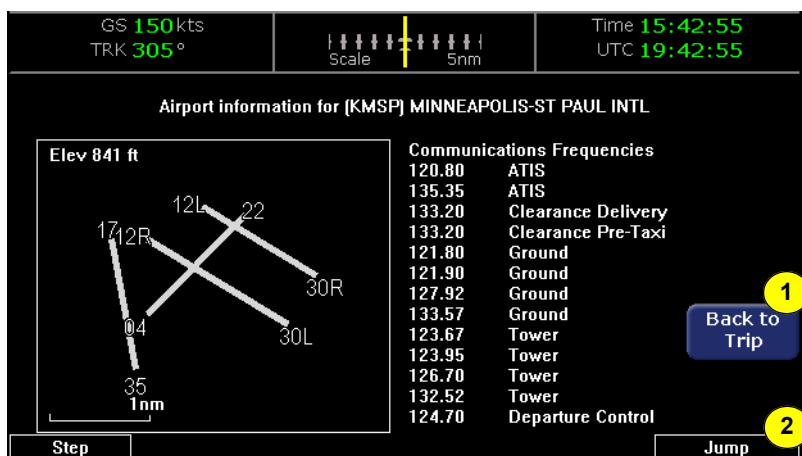

Figure 7.2 Trip Airport Information Page
- 5) **Destination Airport Info** - Provides quick access to airport information for the destination airport. Press Airport Info to display a page similar to Figure 7.2 on page 66.